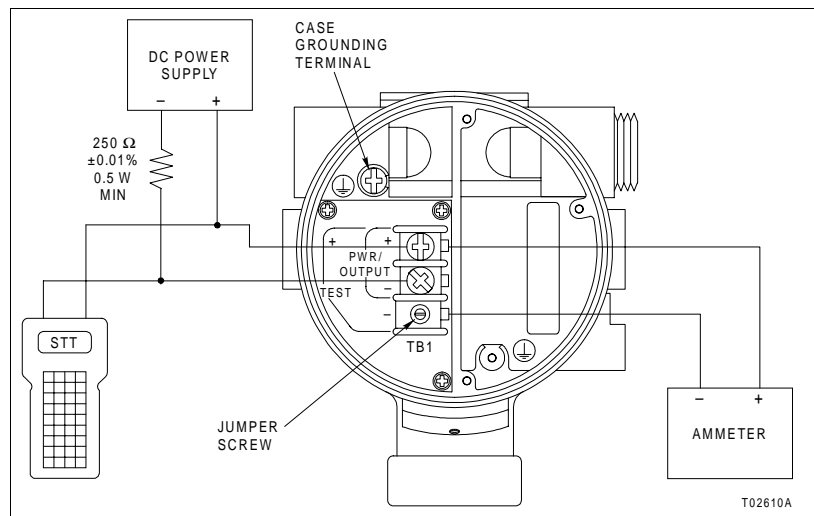

Figure 4-1. Calibration Setup (Typical)
1. Mount and connect the transmitter in a calibration setup such as the one shown in Figure 4-1.